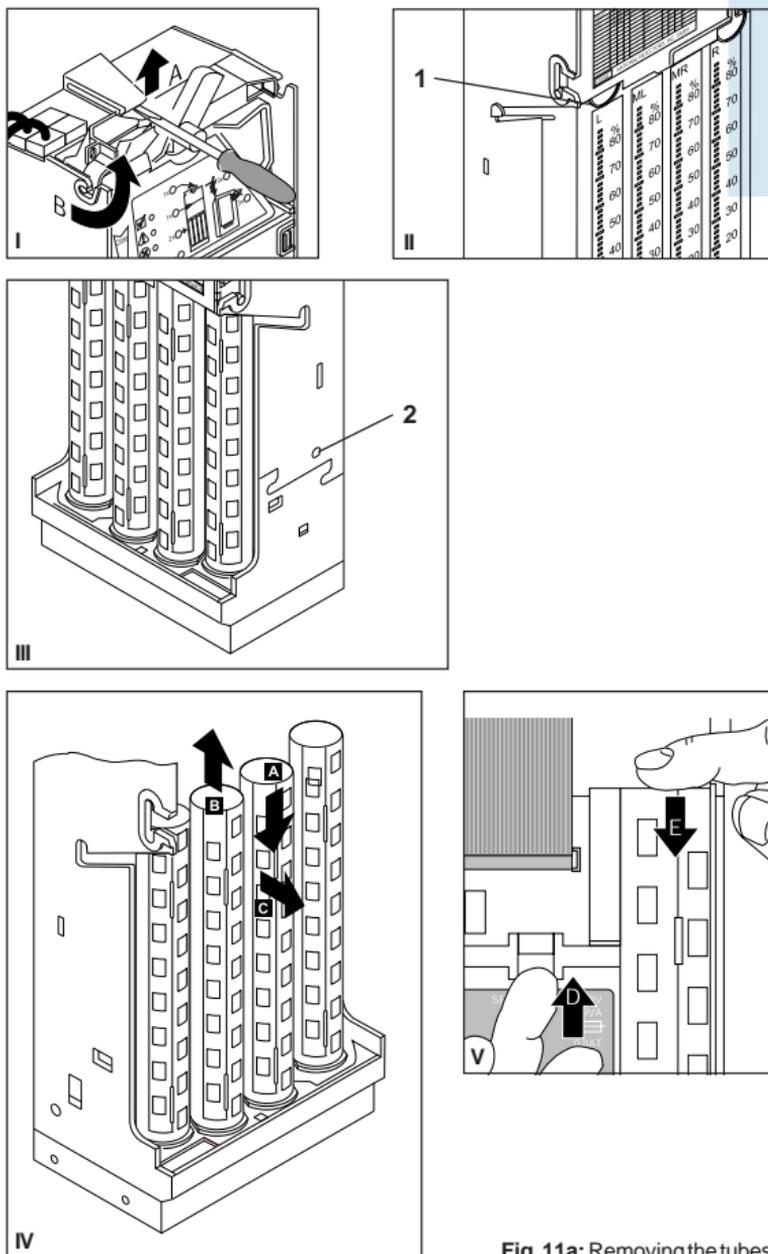

Fig. 11a: Removing the tubes
- 1** Remove the coin validator and pull off the connecting cable (see Fig. 11a, I).
- 2** Remove the tube cover on the cutouts **1** toward the front side (see Fig. 11a, II).
- 3** Remove the fastening screw **2** for the cash-box channel on the right-hand side of the device housing (absolutely required) (see Fig. 11a, III).
- 4** Press down one of the middle tubes **A** and pull up the adjacent tube **B**, so that the intermediate wall rises and then pull out the downward-pressed tube toward the front **C**, (see Fig. 11a, IV).
- 5** Use one hand to press the intermediate wall upwards **D** and pull out the remaining three tubes in the sequential order of middle, left, right **E** to the extent required for the replacement (see Fig. 11a, V).